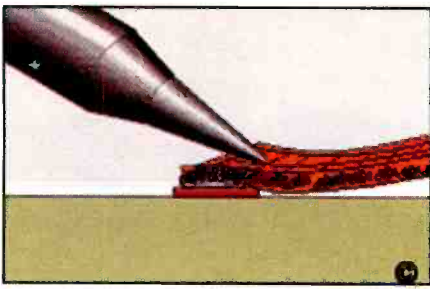

Figure 6. Removing excess solder from surface mount pads using a solder iron and solder braid.
4. Place braid over the pad and rest the iron tip on the braid. (Figure 6). As you apply the heat, it's important to avoid putting any downward or sideways pressure on the pad, since the adhesive resin underneath the pad is being heated at the same time. Adhesion between the PC